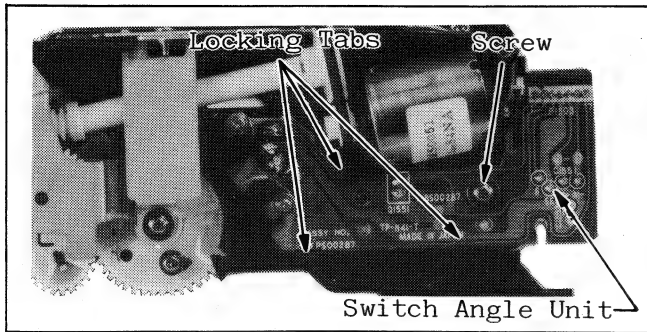

Fig. M36-6 Adjustment of Cassette Up Gears-(6)
5. Install the Switch Angle Unit with screw and 3 Locking tabs as shown in Fig. M36-6.